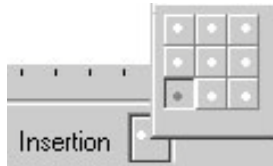

Figure 9-88. Insertion Point Selection
- On the Text input bar, click to select the **Insertion** point position. The insertion point relates to the held coordinate, relative to the text string. The drag handle for moving the text will be at the insertion position (Figure 9-88).